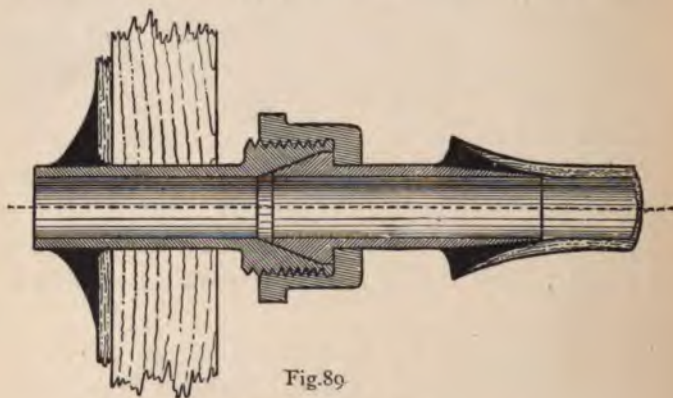

Fig. 89
*Brass unions* can be bought ready made, and cost very little; they consist of three pieces—namely, two short pipes and a nut (Fig. 89). One of the pipes has a conical end which fits into a